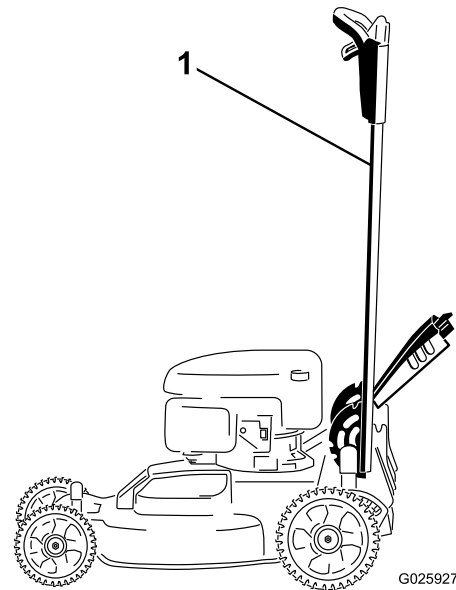

Figure 40
1. Lock the handle in the vertical position (Figure 40); refer to Adjusting the Handle Height (page 11).